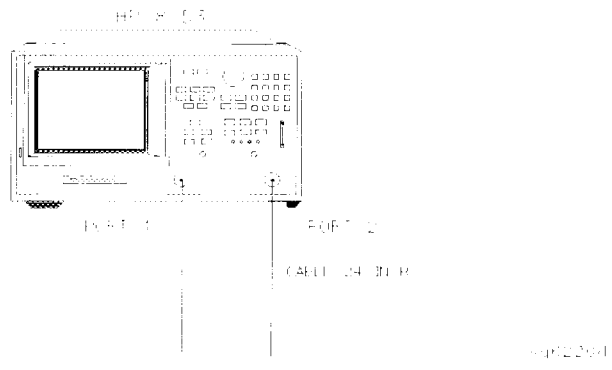

Figure 6-20. Receiver R Input Impedance Test Setup
- 19** Connect the equipment as shown in Figure 6-20.